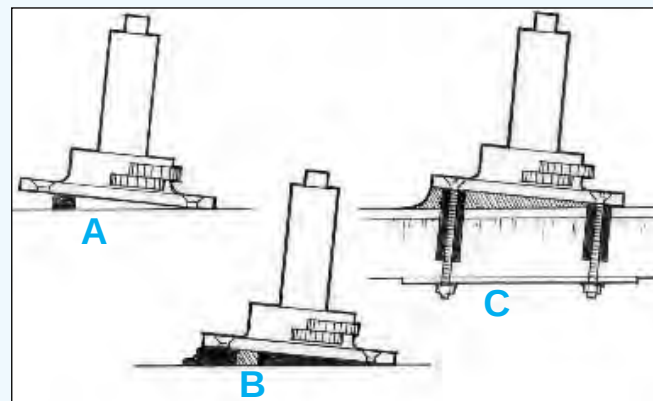

Figure 19 Support the base in position with blocking - apply enough thickened epoxy to fill the void.
2. Bond small blocks to the substrate to support the base at the desired height and position (e.g., *winch base, Figure 19"A"*).
4. Place the hardware in position, resting on the blocks (Figure 19"B") and install the fasteners.
5. Smooth the excess epoxy into the desired fillet shape around the base (Figure 19"C"). Allow the epoxy to cure fully before loading. Protect exposed epoxy from UV. (see *finish coating page 29*).